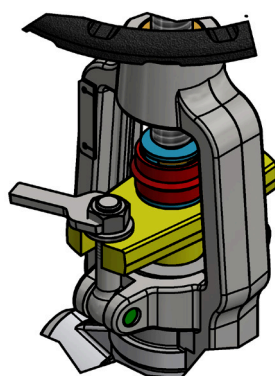

Figure B.17 – Stem packing gland tightening
- The globe valve stem packing should be the subject of particular attention as it is important for the qualitative maintenance of tightness and shall be checked every 3 months. If leakage at the stem packing is detected, the gland nuts should be tightened slowly (Figure B.17). Torque for tightness gland nuts shown in Table B.13. When gland nuts are tightened, if the gland falls down more than twice the packing ring height, new packing rings should be added to the stem packing.